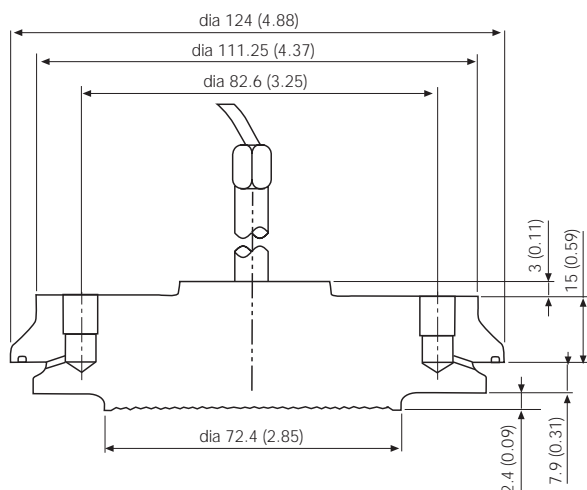

Fig. 28 - 4in Cherry Burrell aseptic
2. Install two O-rings on the periphery of the seal and an O-ring under each steam connection fitting as shown in Figure 28.